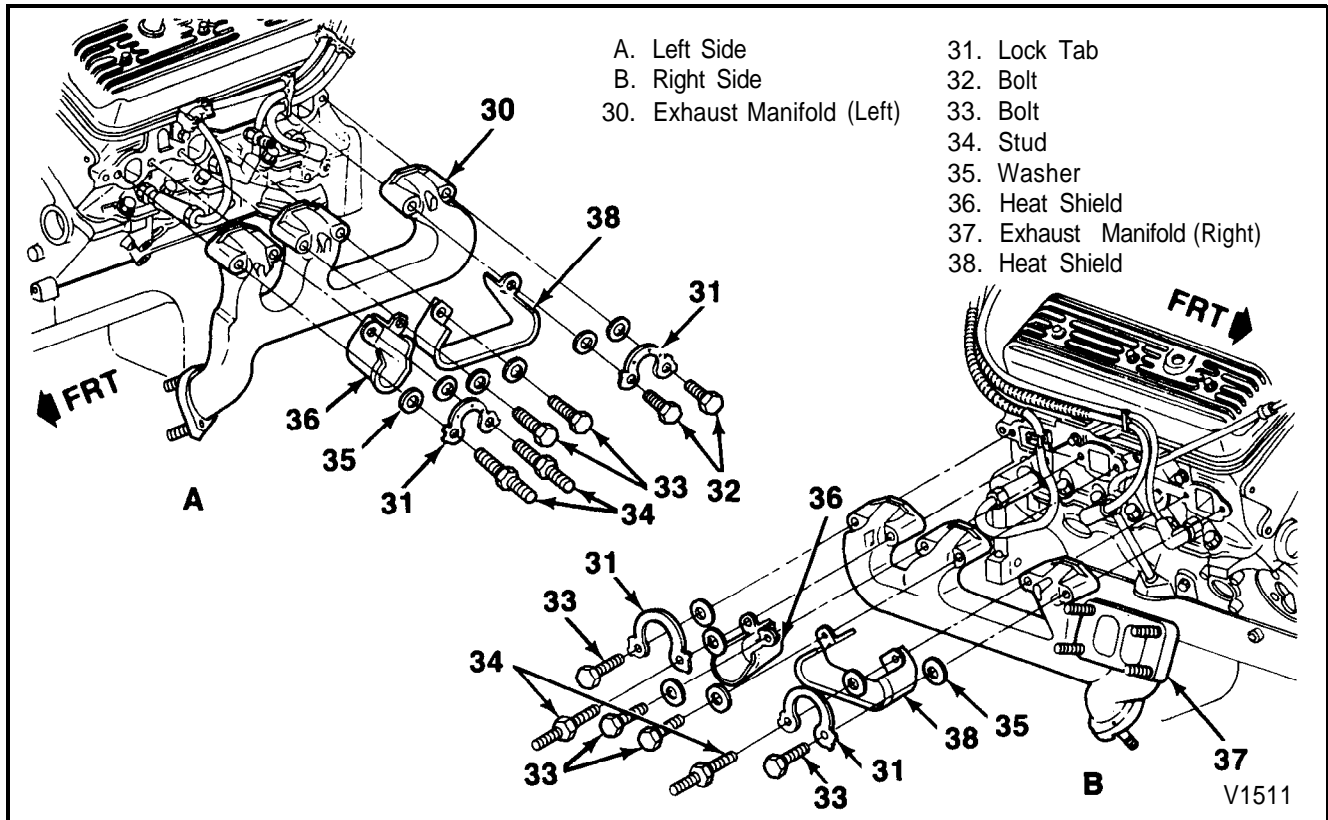

Figure 7 - Exhaust Manifolds
#### Remove or Disconnect (Figure 7)
#### Install or Connect (Figure 7)
17. Exhaust crossover pipe from right exhaust manifold (37).
21. Exhaust manifold bolts (33), studs (34) lock tabs (31) washers (35) and heat shields (36 and 38).
22. Exhaust manifold (37).
**→← Install or Connect (Figure 7)**
1. Exhaust manifold (37), heat shields (36 and 38), washers (35), lock tabs (31), bolts (33) and studs (34).
- Exhaust manifold bolts (33) and studs (34) to 45 N•m (33 ft. lbs.).